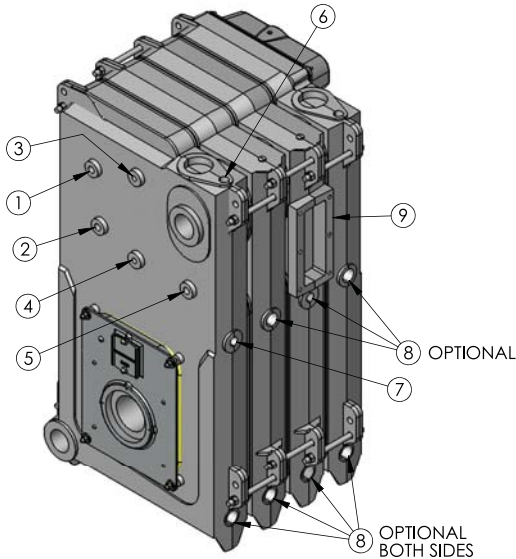

Figure 3.15: Control Connection Locations
- Mount an optional Float-type Low Water Cutoff (LWCO) in the tappings provided in the top and side of the Front Section. See Figure 3.15 for the location of control connection tappings.
(See Figure 3.15)**